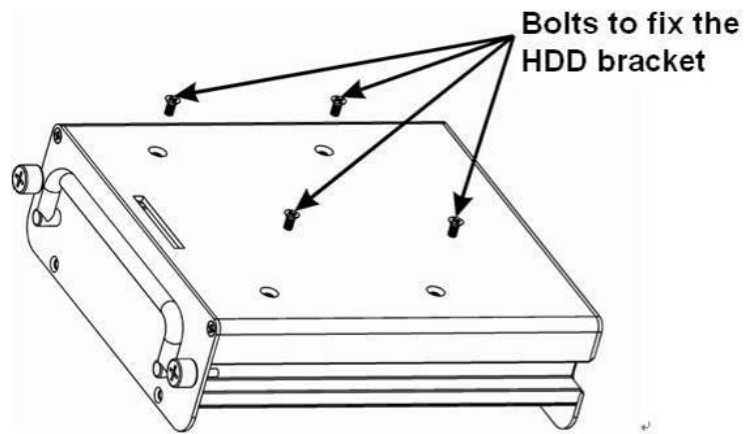

Figure 3-6
6) After install the HDD, put the HDD bracket back to the box. See Figure 3-6. Secure bolts of the HDD bracket and connect the cable to the corresponding ports.